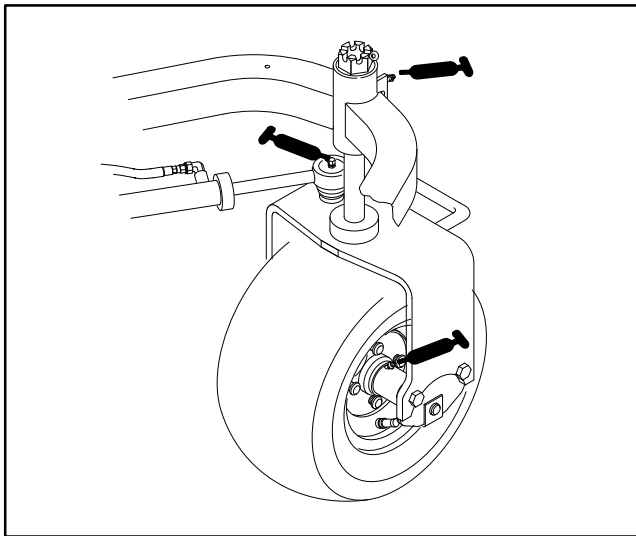
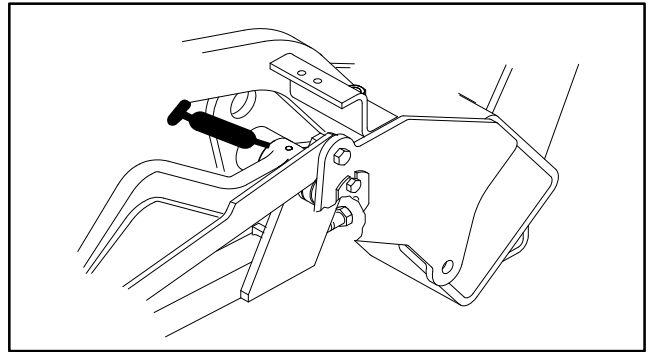
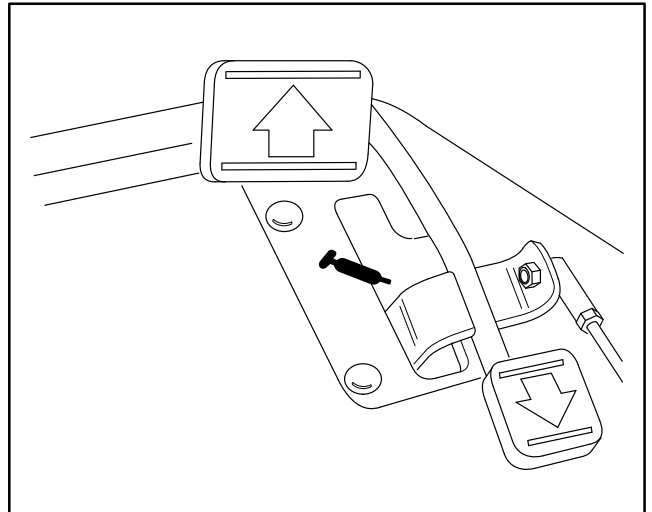

Figure 30
Figure 31
Figure 32
The traction unit bearings and bushings that must be lubricated are: Rear wheel hub (1), Castor bearing (1), Steering cylinder (2) (Fig. 30), Lift arms (3) (Fig. 31), Traction pedal pivot (1) (Fig. 32).